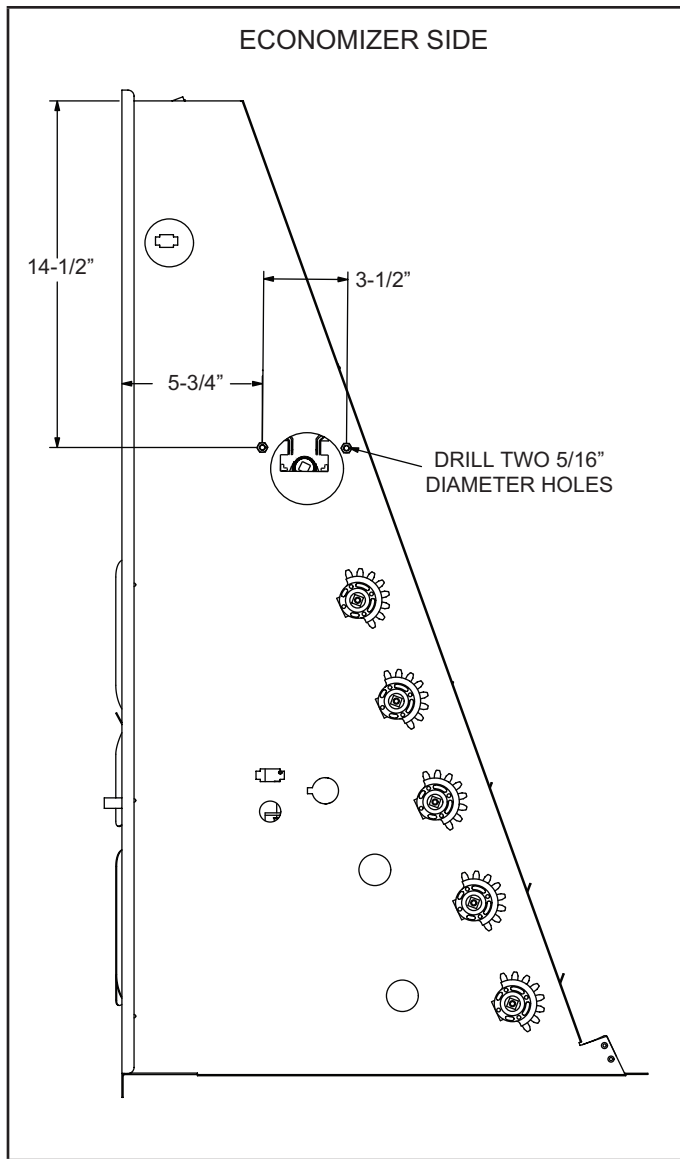

FIGURE 2
- 3 - Drill two holes for actuator bolts in the side of the economizer. See figure 2.